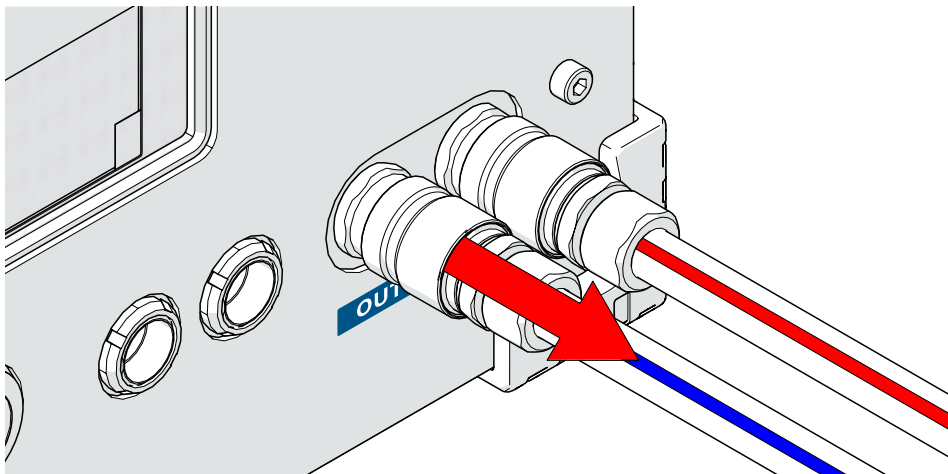

Fig. 14 - Disconnect hose by pulling on sleeve of the quick connect
2. To disconnect a hose, grasp the sleeve of the hose fitting and pull it away from the Cooler (Fig. 14).